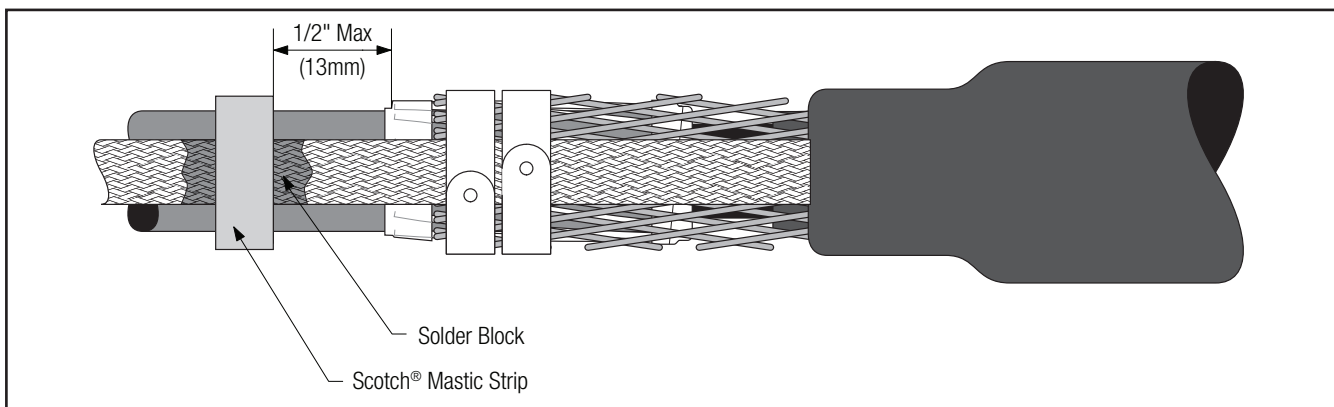

Figure 20
- 5.9 Place another mastic strip over the solder block. Press the mastic strips around the solder block and to the cable jacket (*Figure 20*).